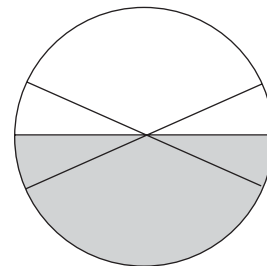

Fig. 9-11
⑥While looking through the eyepiece, turn the measurement knob so that the boundary line crosses the intersection point of the crossline while looking through the eyepiece (Fig. 9-11). If there is color blurring in and near the boundary line, turn the color compensator knob to remove it.